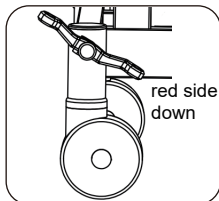

Figure 3.1 Locked
- Step on the red side of the rear casters brake pedal, the casters will be locked.(Figure 3.1)